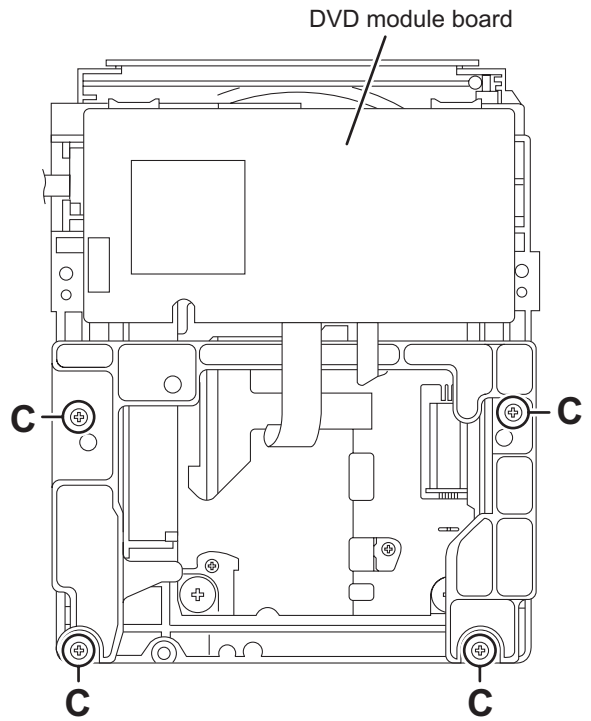

Fig.3
(3) Remove the four screws **C** attaching the CB holder and take out it. (See Fig.3)